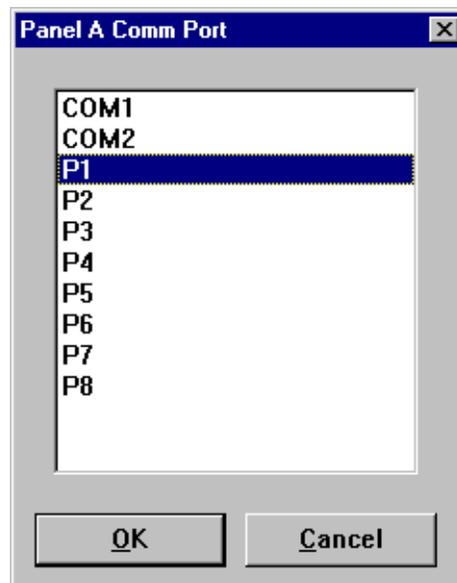

Figure 73. Comm Port dialog box
2. Choose **Controller | Comm Port** to open the Controller Setup dialog box. An example of this dialog box is shown in Figure 73.
9. Choose **Controller | Comm Port** to open the Communication Port dialog box (see Figure 73 on page 135).